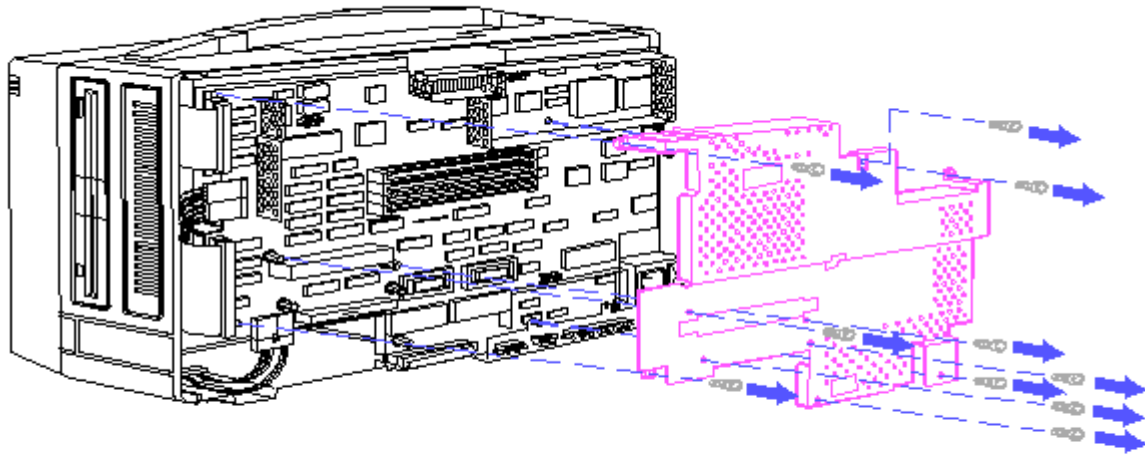

Figure 8-10. Removing the System Board Cover
8. Lift the system board cover up and away from the computer and set it aside (Figure 8-10).